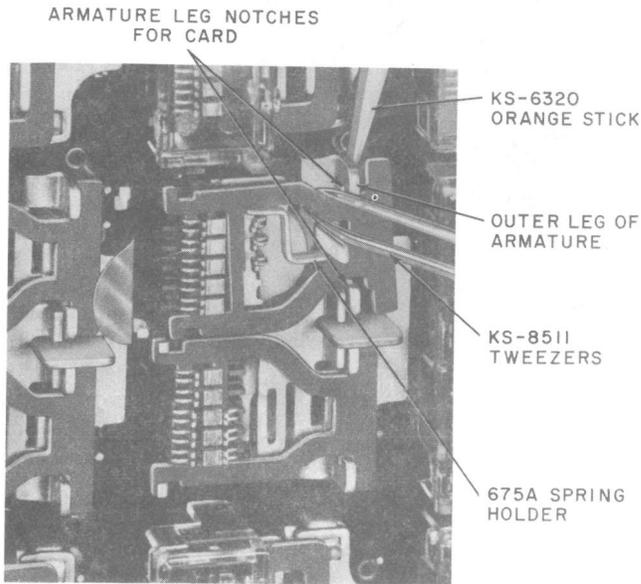

Fig. 9—AM-Type Relay—Disengaging Card From Armature Legs
3.30 Apply the KS-6320 orange stick to the right side of the outer leg of the armature behind the card and hold the armature in the unoperated position as shown in Fig. 9. With the KS-8511 tweezers, grasp the upper section of the card as
3.34 Make sure that the circuit designation has been stamped on the new card as covered in 3.21. Then, with the black surface of the new card uppermost and the two notches for the balancing spring legs at the left, grasp the card at the upper notch with the KS-8511 tweezers. Place the card, black surface outermost, on the relay so that the fixed contact springs are between the two vertical parallel sections of the card. Then engage the card on the armature legs as follows: Apply the KS-6320 orange stick to the right side of the outer leg of the armature behind the notch for the card and hold the armature in the unoperated position (see Fig. 9). Grasp the upper section of the card with the tweezers, and move the card to the right and back so that the card is in line with the notch in each armature leg. Then remove the orange stick from the armature and guide the card into the notches.
(b) Disengage the card from the armature legs as follows: Apply the KS-6320 orange stick to the right side of the outer leg of the armature behind the card and hold the armature in the unoperated position (see Fig. 9). Grasp the upper section of the card with the KS-8511 tweezers and move the card to the right and outward to disengage it from the armature legs. With the orange stick applied to the right side of the card, hold the card as far as possible to the left. Grasp the bottom handle of the holder, swing it outward, and carefully withdraw the notched section through the gap between the make contacts. Release the card.
(c) Remount the card in the armature leg notches as follows: Apply the KS-6320 orange stick to the right side of the outer leg of the armature behind the notch for the card and hold the armature in the unoperated position (see Fig. 9). Grasp the upper section of the card with the KS-8511 tweezers, and move the card to the right and back so that the card is in line with the notches in each armature leg. Then remove the orange stick from the armature and guide the card into the notches.